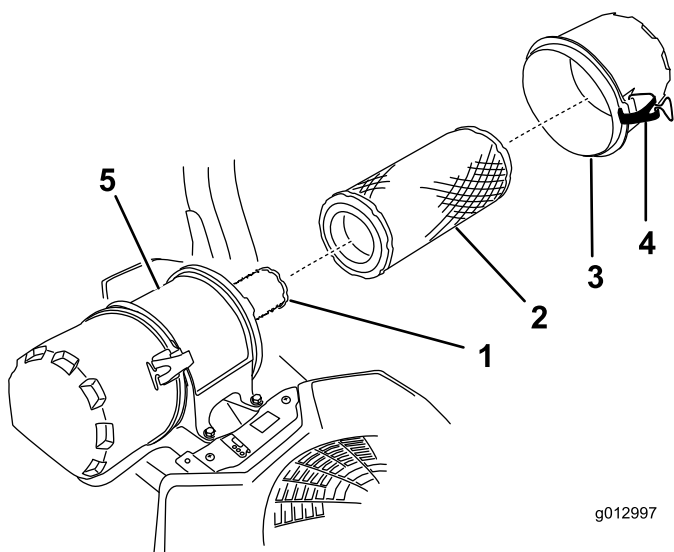

Figure 42
- Release the latches on the air cleaner and pull the air-cleaner cover off the air-cleaner body (Figure 42).
- Gently slide the primary filter out of the air-cleaner body (Figure 42).
- If you are replacing the inner filter, carefully slide it into the filter body (Figure 42).
- Carefully slide the primary filter over the safety filter (Figure 42).
- Install the air-cleaner cover and secure the latches (Figure 42).